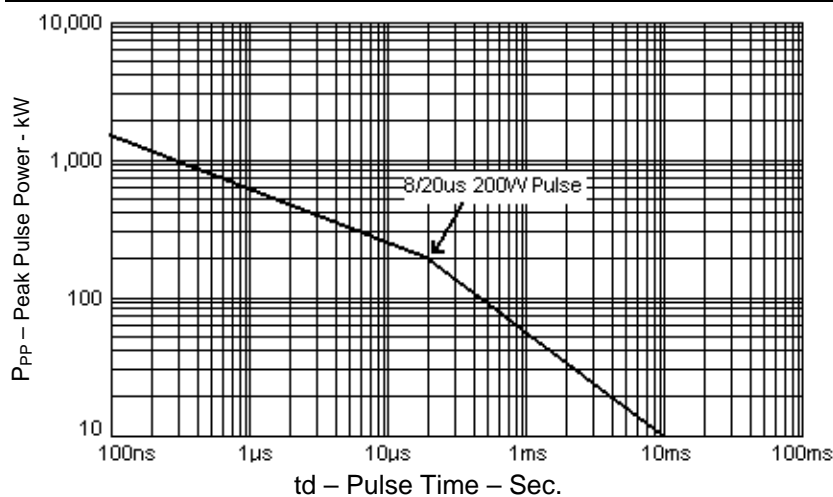

FIGURE 1
- Peak Pulse Power: 200 watts (8/20 μ s, Figure 1)